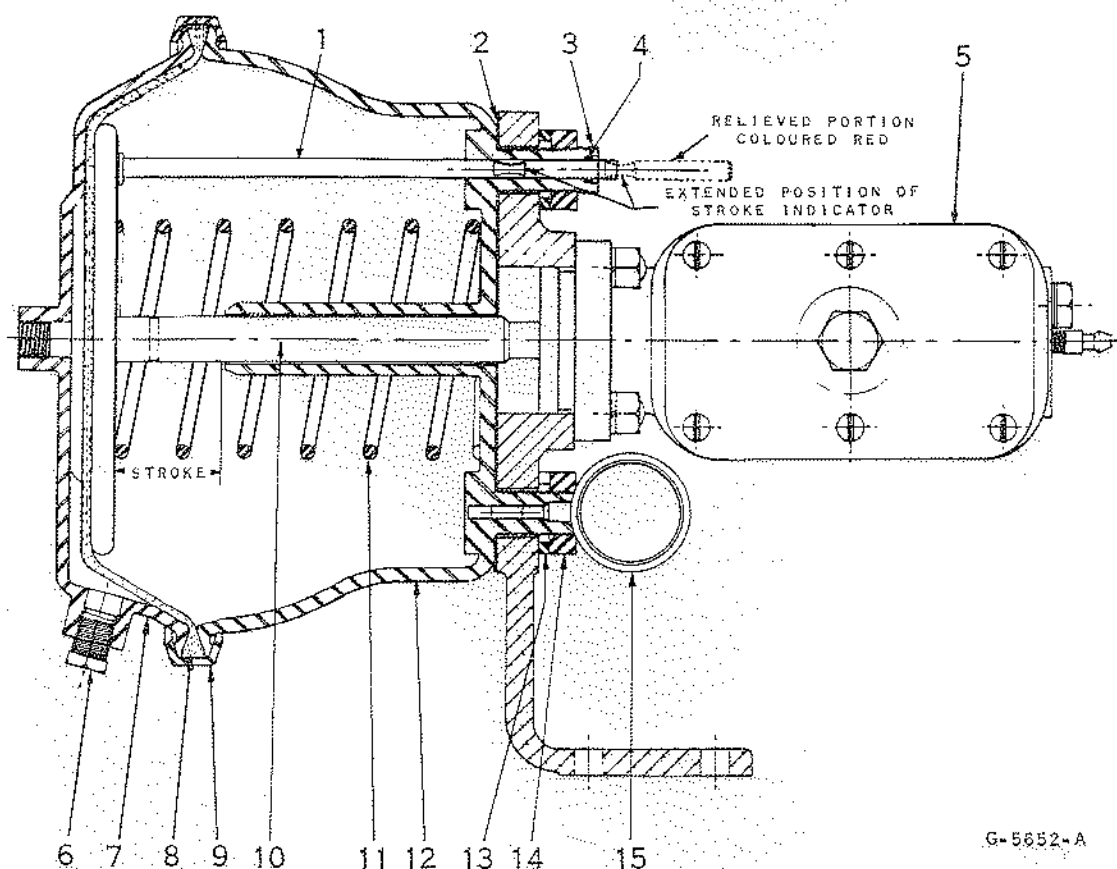

Fig. 1 - Actuator and Master Cylinder Unit
To prevent entry of dirt and water to the non pressure side of the brake chamber and to the piston of the master cylinder, one brake chamber mounting stud is tapped and a breather (15) fitted. All other openings to the non pressure side are sealed. A stroke indicator rod (1) is fitted through the other mounting stud, see figure 1 and 2.